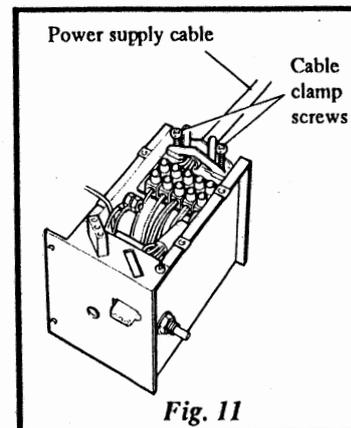

Fig. 11
12.5 Connect the power supply cable - see Fig. 11.
- Slacken the two screws in the cable clamp, see Fig. 11. Feed the power supply cable under the cable clamp and connect the wires, brown to L, blue to N and green and yellow to \perp on the terminal block. See Wiring Diagrams, page 17.